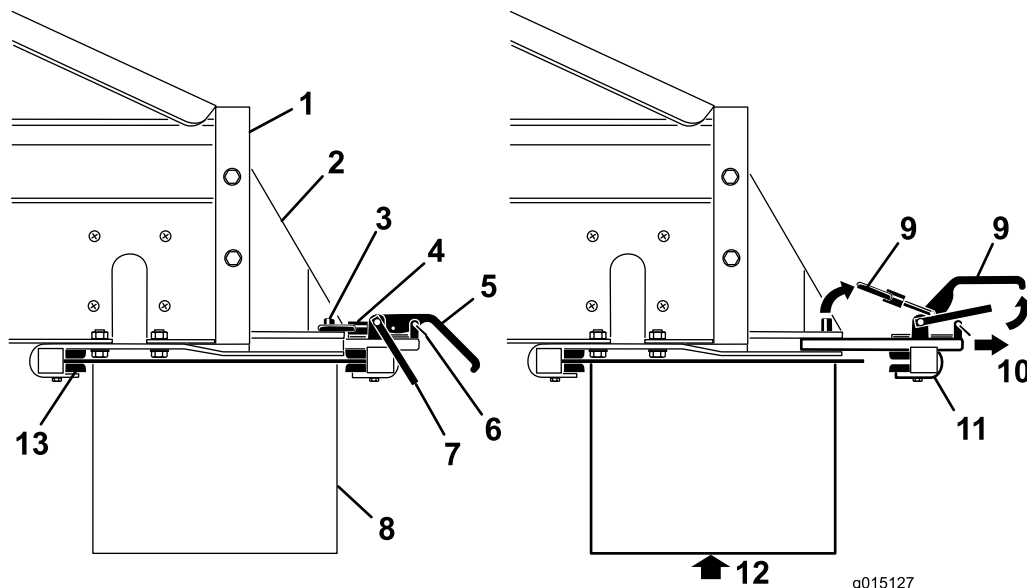

Figure 48
3. Remove the safety latch clips from the clamp handles (Figure 48).
4. Lift the safety latch, then lift the option attachment clamp handles, and release the lock rings from the lock pins (Figure 48).
5. Slide the rear option attachment clamp assembly out of the quick-attach slots (Figure 48).
6. With assistance, insert the front edge of the cross conveyor/swivel up and under the rear of the machine into the front clamps on the brackets (Figure 48).
7. While supporting the cross conveyor/swivel, slide the rear option attachment clamp assembly back into the slots in the brackets, and over the rear edge (Figure 48).
9. Install the safety latch clips to the clamp handles (Figure 48).